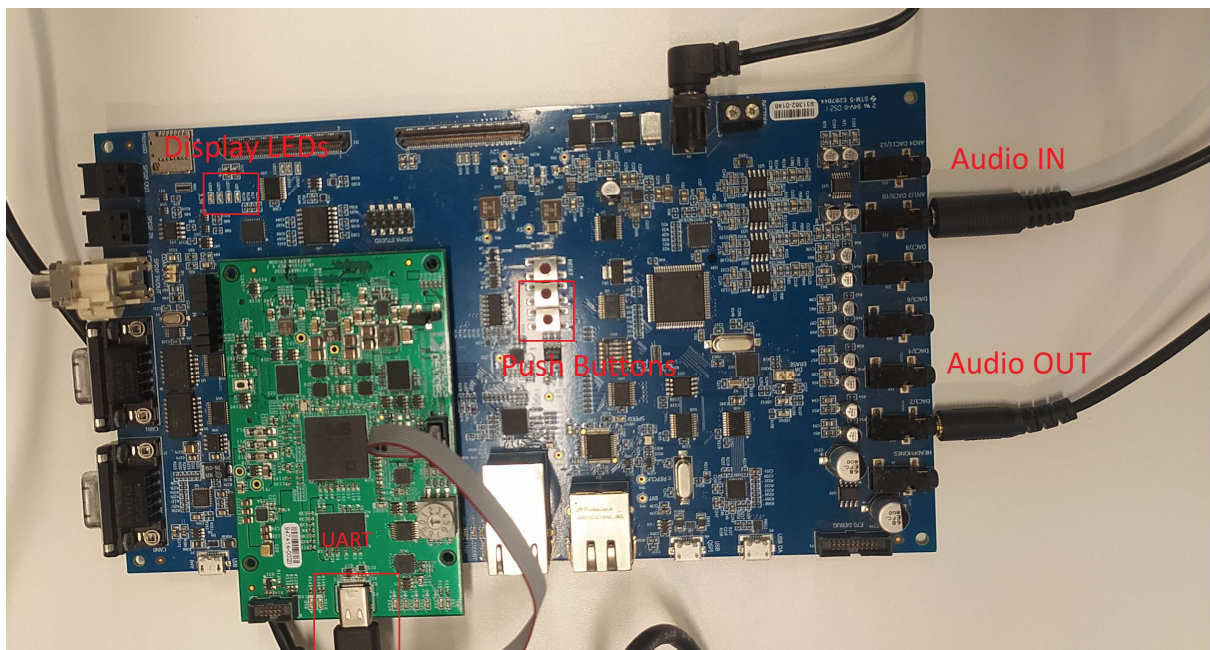

Figure 2: ADSP- SC835 audio connections
- Connect the standard-A end of the USB cable to the host PC and standard-C end to the EV-SC835-SOM Board USB-to-UART connector. Fig 2.
- Open a serial terminal preferably '**Termite**'. Configure the Termite terminal program with the above settings and also configure it to append the Line feed (LF) for each character sent from the terminal.